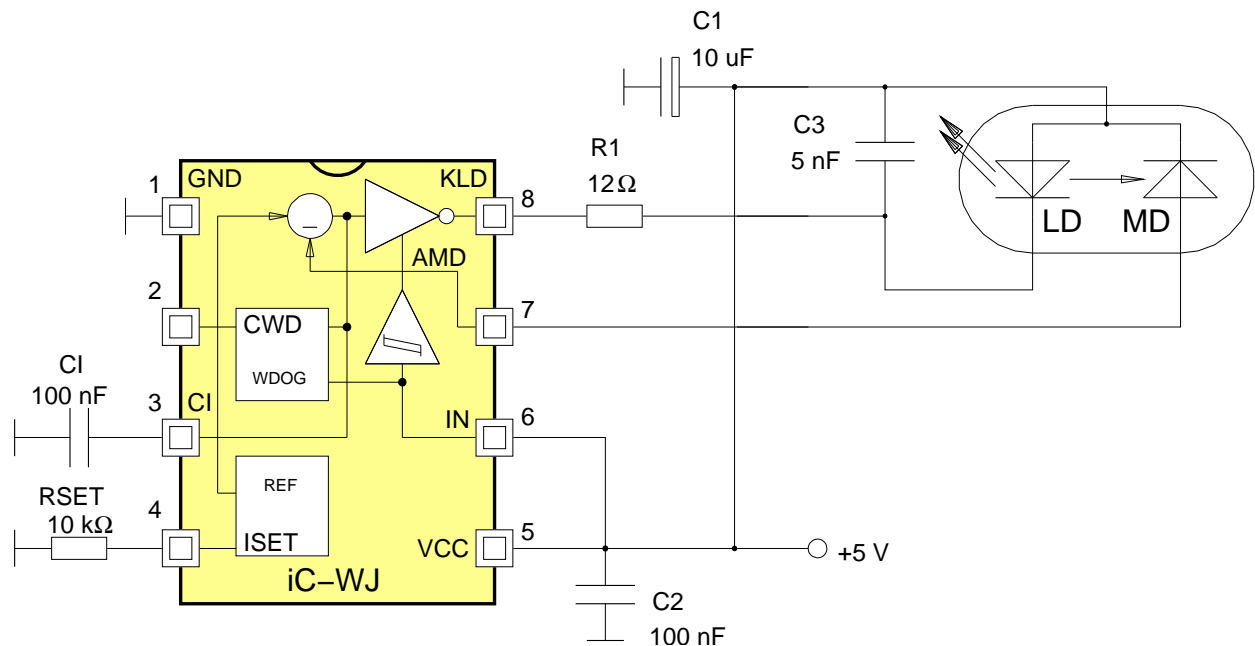

Figure 5: DL-4148-021 or DL-4148-031 with iC-WJ
**DL-4148-021** and **DL-4148-031** are N-type laser diodes with a maximum of 80 mA at a maximum output power of 12 and 10 mW respectively. Here, either **iC-WJ** (Figure 5) or **iC-WKN** can be used. If the laser